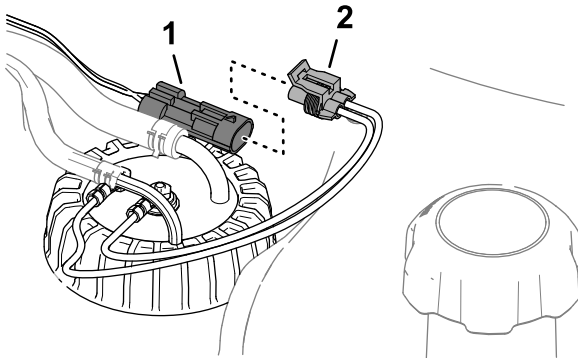

**Figure 87**
2. Remove the 5 Phillips-head screws that secure the fuel-sender cover to the fuel tank, and remove the cover (Figure 87).